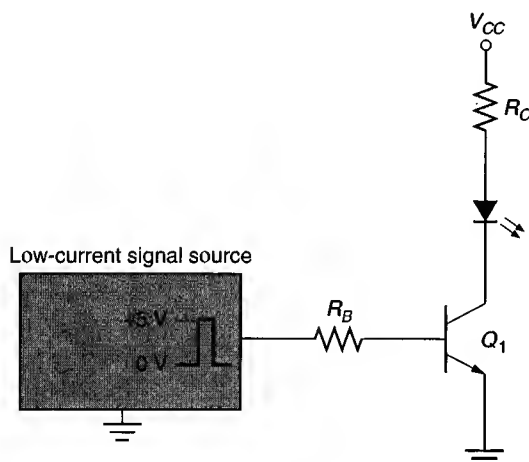

FIGURE 19.9 A typical application for the simple BJT switch.
A typical application for a BJT switch is illustrated in Figure 19.9. In this figure, the BJT is being used as an LED *driver*. A **driver** is a circuit used to couple a *low-current signal source* to a relatively high-current device. Assuming that the output current from the signal source is insufficient to light the LED, a driver is required to provide the current needed to light the LED.
Even though the driver shown in Figure 19.9 uses a BJT, drivers are commonly made with each of the active devices covered in this section. The device used in any driver application is determined by the system engineer, and no single active device seems to dominate this application.
8. Using only the components shown, how could the circuit shown in Figure 19.9 be altered to light the LED when the output from the signal source is 0 V?